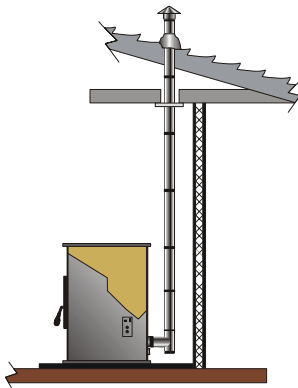

Figure 19
VERTICAL INSTALLATIONS: (Figures 19 - 24)
-  **VERTICAL, THROUGH THE CEILING**, through another room or space, or attic, then through the roof, terminating with a rain cap. Figure 19.